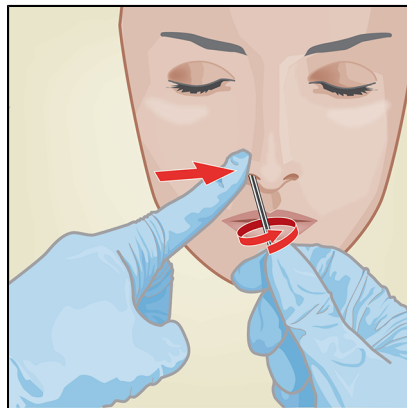

Figure 3. Anterior Nasal Swab Collection for Second Nostril
2. Repeat on the other nostril with the same swab, using external pressure on the outside of the other nostril (see Figure 3). To avoid specimen contamination, do not touch the swab tip to anything other than the inside of the nostril.